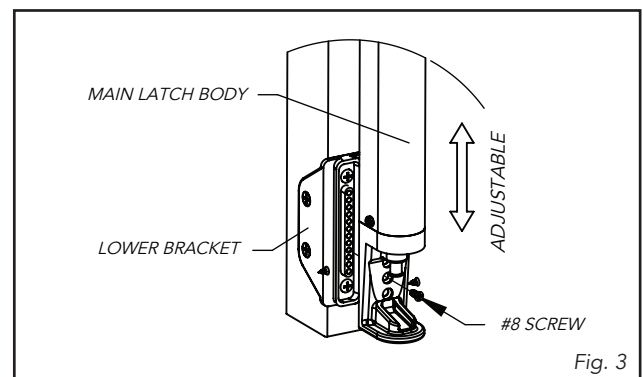

Fig. 3
- Temporarily insert the bottom bracket and align the holes with the (3) countersunk holes at the bottom of the main body (Fig. 3). With the latch at the proper height, mark the lower bracket location on the post.
- Remove the main body and attach the lower bracket with the supplied mounting screws (2) flat head screws and (2) pan head screws.
- Align the holes of the latch and bottom bracket, making sure that the overall latch height is maintained, and secure with (1) #8 flat head screw (Fig. 3).
- Secure keeper assembly to gate with the (4) pan head screws provided.